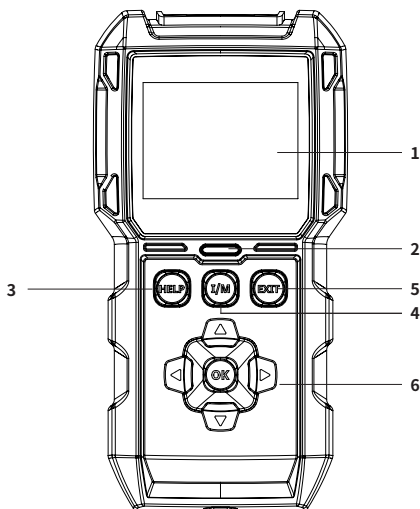

Figure 2.1.1
1. Display: The 2.8" colored screen shows menus, submenus, test results, specific functions, monitor status info. For further details, please refer to the following section Main Menu & Home Screen Icons. (See Figure 2.1.1)